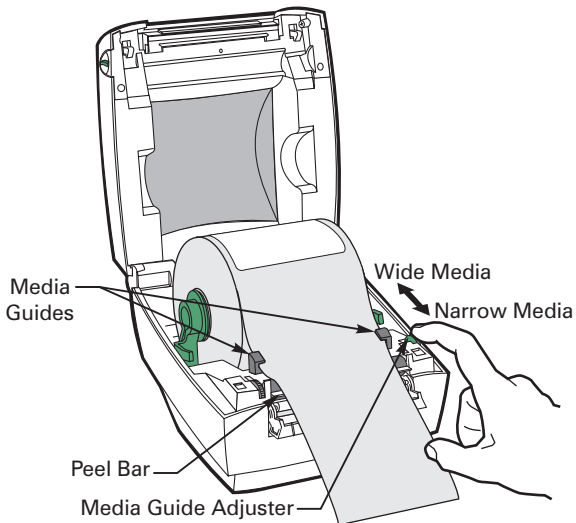

Figure 12
7. Refer to Figure 12. Thread the label backing through the media guides and over the peel bar.
NOTE: If the media guides must be changed to accommodate the width of the media, turn the green media guide adjuster (refer to Figure 12). The media guides should just touch, but not restrict, the edges of the media.